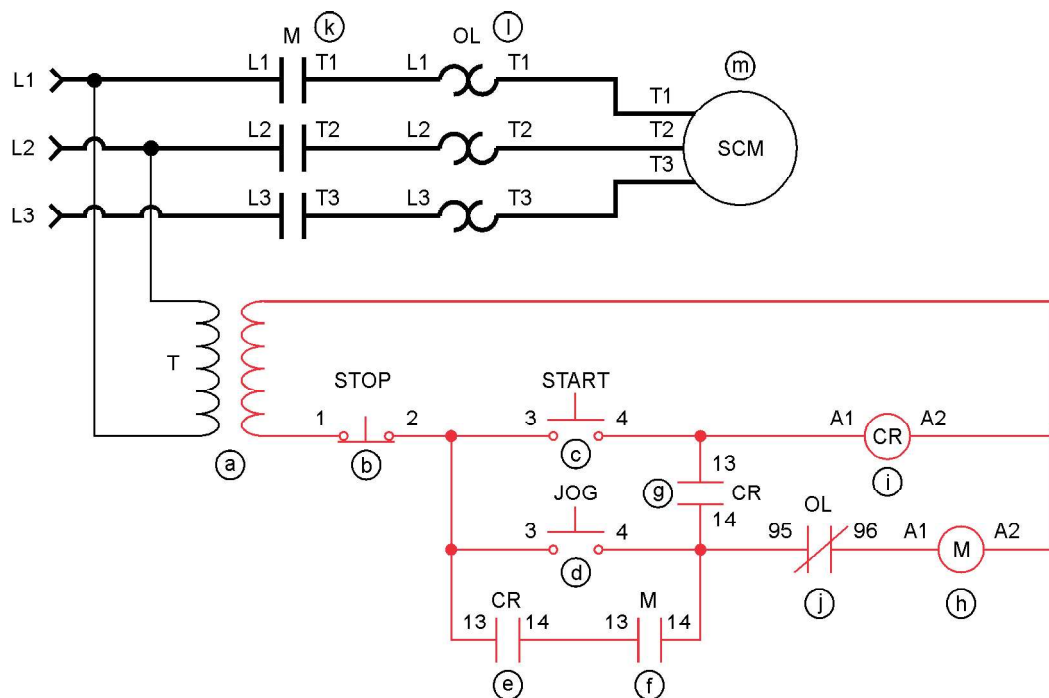

Figure 2-8. Schematic diagram.
3. In the Figure 2-8 schematic diagram, identify each circled letter with the appropriate device name (see NEMA symbols table in Appendix B).